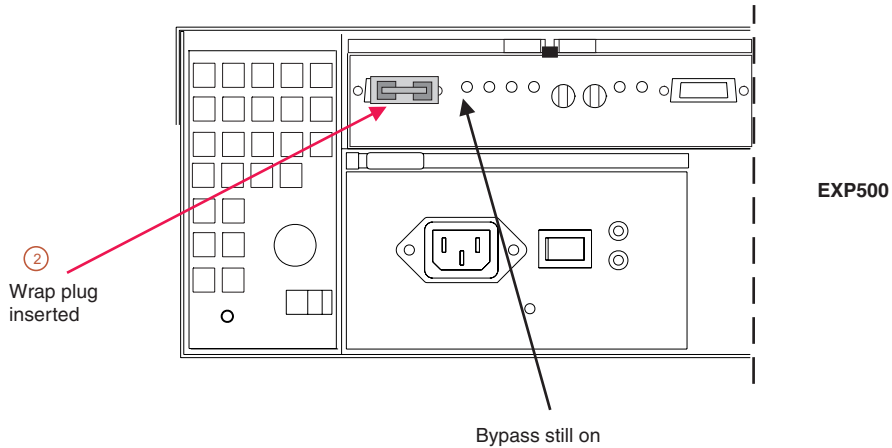

Figure 71. Insert wrap plug
2. Insert a wrap plug in the element from which you disconnected the cable. See Figure 71.